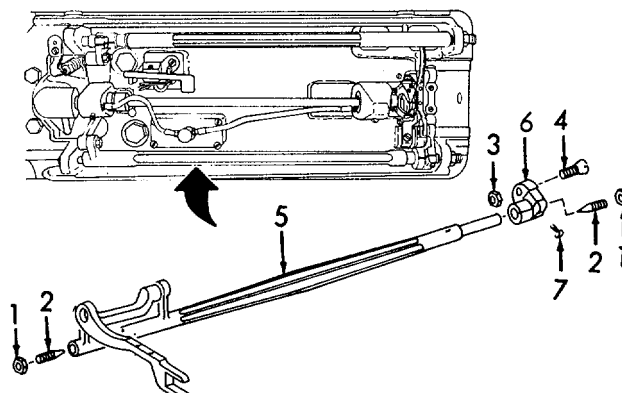

Figure 6-48. Feed Lifting Hook Shaft, Removal.
- (12) If the drive crank (6) is to be removed, slightly score the shaft with a scribing tool to mark the location and position of the crank.
- (13) Loosen the lockscrew (7) and remove the drive crank.
- (14) Refer to Figure 6-48. Loosen the locknut (1) on both the shaft centering screws (2).
- (15) Remove the nut (3) and the screw (4).